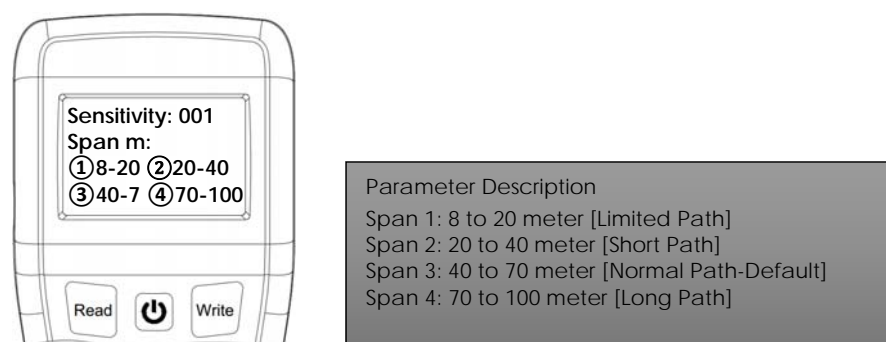

Figure 12
2. Switch on the programmer, then press button **"3"** then display **"Sensitivity and Span (m)"**. Then enter then press **"0/Page"** key to highlight the previous Span setting. Then press value from 1, 2, 3 or 4 correspond to the span value and then press **"Write"** key. (Figure 12)